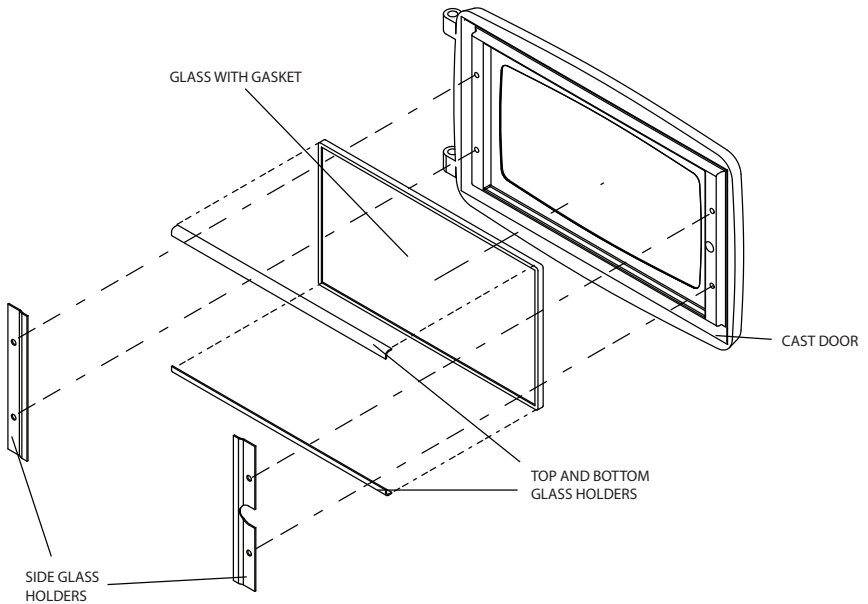

Figure 18. Wood Stove Door Assembly
1. Using a 3/8" socket remove the 4 bolts securing the glass holders/brackets in place as shown in Figure 18 .
4. Place the new glass in the cast door. Secure the glass with the glass holders and 4 bolts as shown in Figure 18.